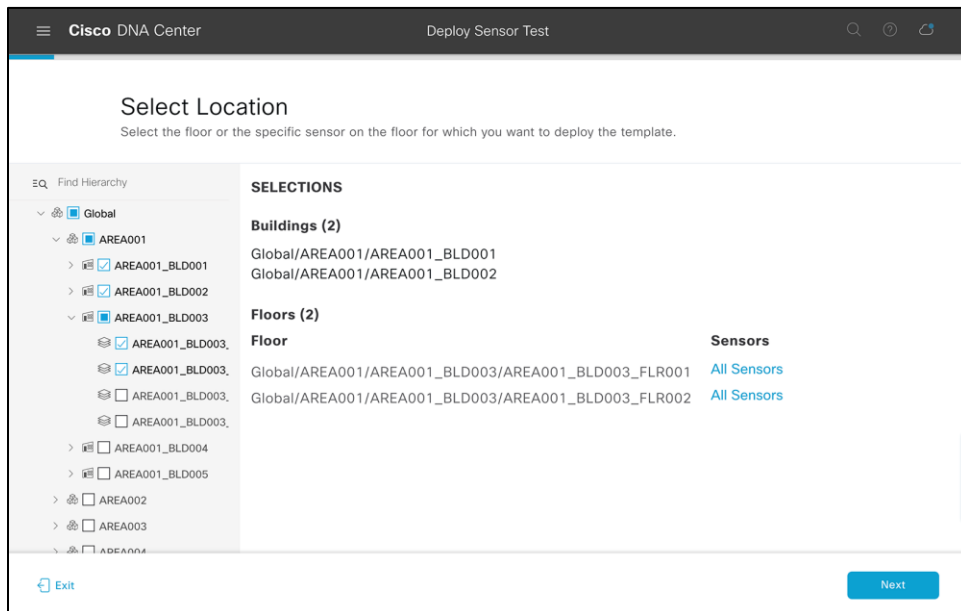

Figure 85.
20. Optional – Select individual sensors: If you would like to specify individual sensors to run the selected test, select the floor and you will be given an option to click the All Sensors button, which will allow you to select which sensors to deploy this test to (Figure 85).